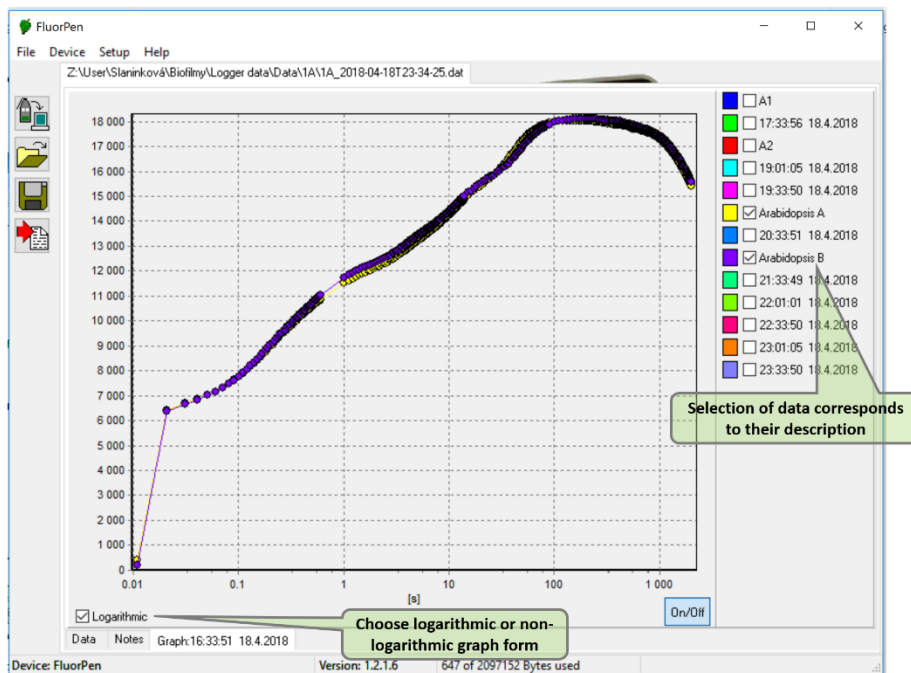

Fig. 27 Graphic visualization of experiment.
5. The selected set of data will be shown on the Graph (Fig. 27).